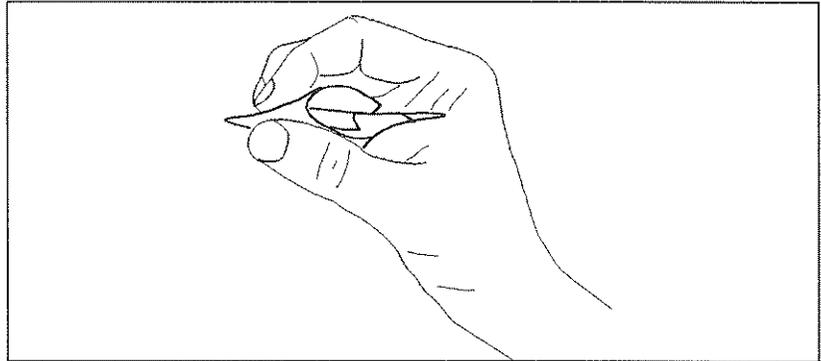

Figure 2-1.
- b. Wrap the trimmed toothpick with a single layer of lint-free cleaning cloth (see Figure 2-1).